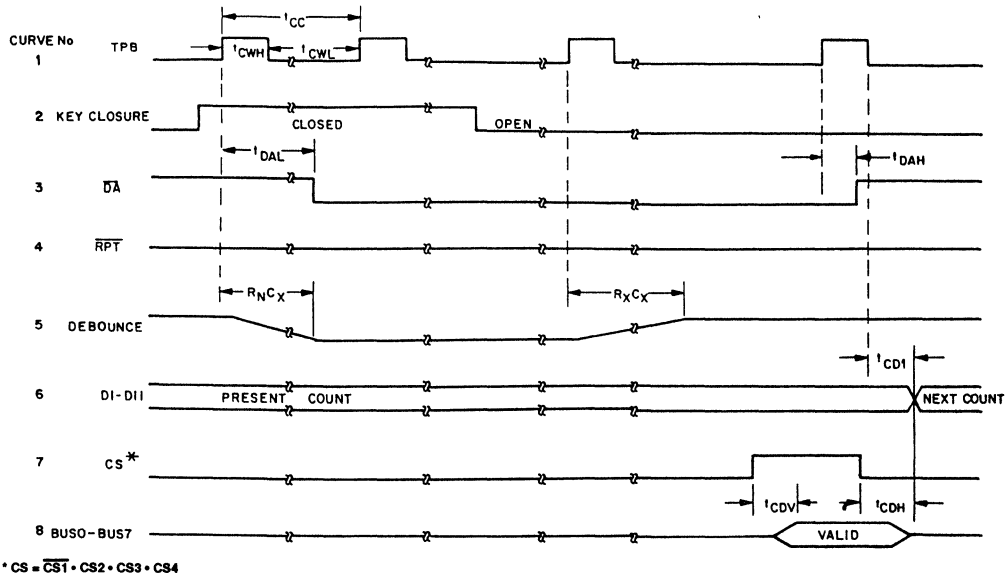

FIGURE 5. CDP1871A DYNAMIC TIMING DIAGRAM (NON-REPEAT)
The dynamic electrical characteristics of the CDP1871A are shown in Table 1, and the timing diagrams in Figure 5. The clock cycle time, the first entry, A, Table 1, and curve 1 in the timing diagram of Figure 5, TPB, define the high and low limits of the clock cycle as $t_{CC} + t_{CWH} + t_{CWL}$. TPB must remain high for at least 100 nanoseconds (B). The low portion of the clock cycle (t_{CWL}) consists of t_{CD}^1 (E) and the keyboard capacitance. This parameter is selected to allow the TPB clock pulse time to ripple through the scan counters. The maximum frequency of TPB is 400kHz at 5 volts V_{DD} and 800kHz at 10 volts V_{DD} .
Note in Figure 5 that the action starts when a key closure is sensed by the encoder; curve 2. On the next low-to-high transition of TPB, the debounce time of $R_N C_X$ occurs as C_X discharges through the transistor and the Schmitt trigger clocks the data available flip-flop; curve 3. The R_N value of the transistor is about 200 ohms, so that, with an external capacitor of 0.1 micro farads, a 20 microsecond delay can be expected. The key release trailing edge debounce time is calculated from the values of the external capacitor and resistor (R_X, C_X). With a 0.1 microfarad capacitor and a 100 kilohm resistor, the debounce time will be 10 milliseconds.